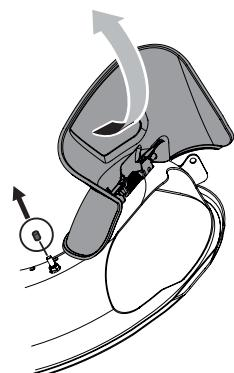

Figure 3
1. Pivot the chute deflector upward and remove the protective cover from the threaded pin found on the deck's surface. See Figure 3.